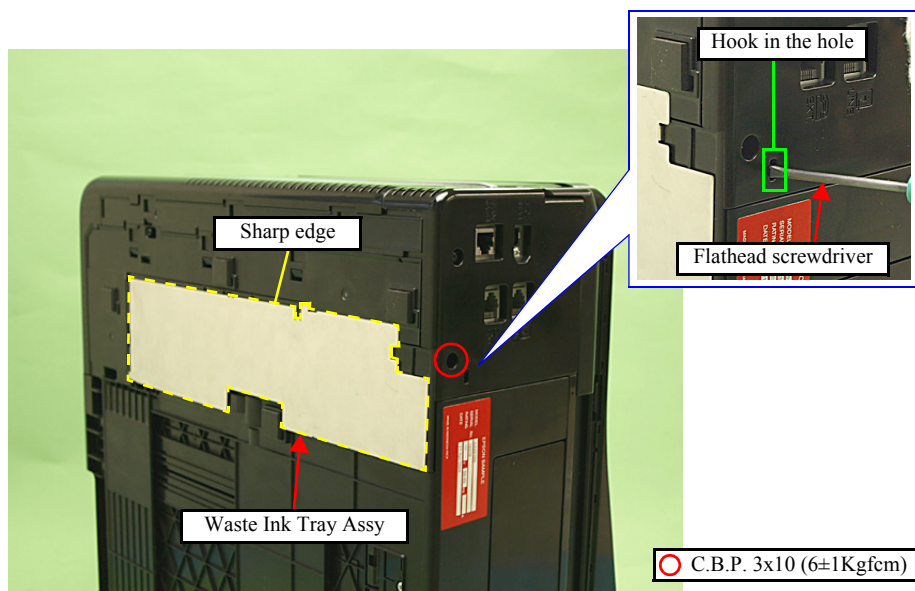
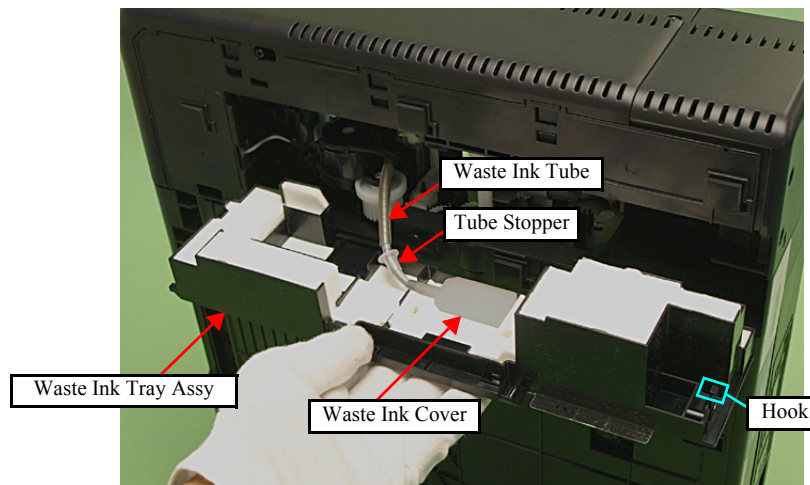
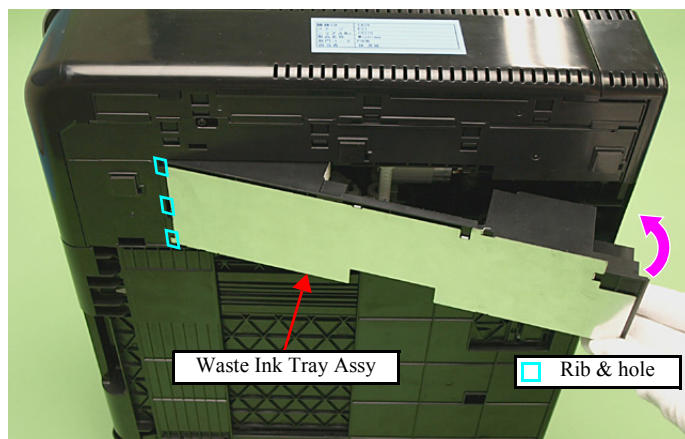

Figure 4-104. Removing the Waste Ink Tray Assy (1)
Figure 4-105. Removing the Waste Ink Tray Assy (2)
Figure 4-107. Installing the Waste Ink Tray Assy
1. Remove the screw (x1). (See Fig. 4-104.)
2. Insert the flathead screwdriver to the hole of the Rear Right FAX Housing to release the hook (x1), and remove the Waste Ink Tray Assy. (See Fig. 4-104, Fig. 4-105.)
4. Align and insert the ribs (x3) of the Waste Ink Tray Assy to the holes (x3) of the Base Frame, and secure the assy with the hook (x1) and screw (x1). (See Fig. 4-104, Fig. 4-105, Fig. 4-107.)